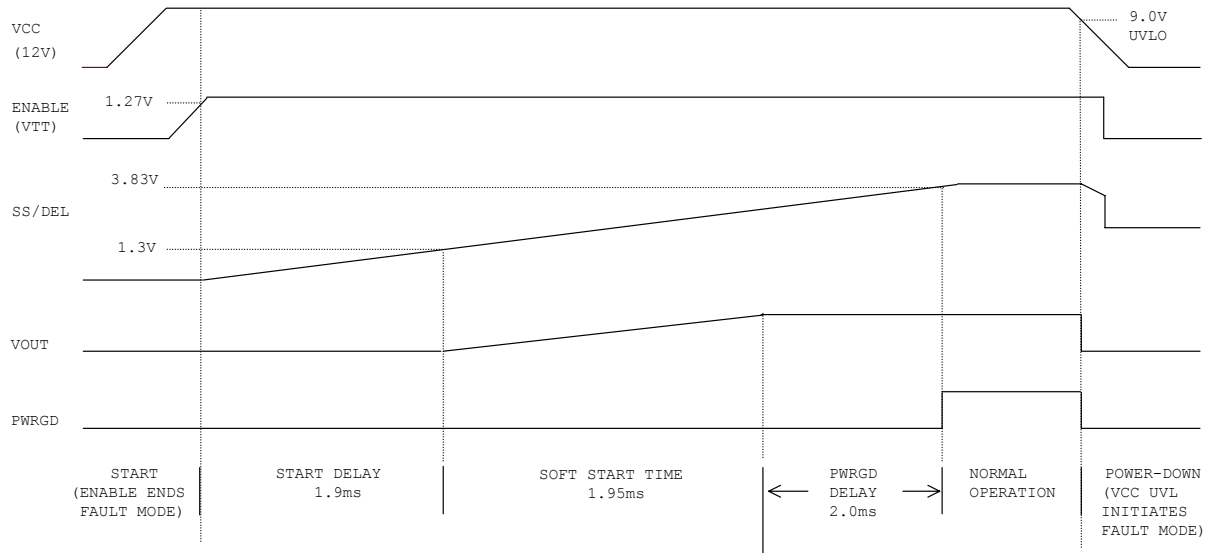

Figure 10 – Start-up Waveforms
The IR3082PbF has a programmable soft-start function to limit the surge current during the converter start-up. A capacitor connected between the SS/DEL and LGND pins controls soft start as well as over-current protection delay and hiccup mode timing. A charge current of 66 μ A and discharge current of 6 μ A control the up slope and down slope of the voltage at the SS/DEL pin respectively. Soft start-up waveforms are shown in Figure 10.
The SS/DEL pin voltage controls the slew rate of the converter output voltage, as shown in Figure 10. After the ENABLE pin voltage rises above 1.23V, there is a soft-start delay time t_{SSDEL} , after which the error amplifier output is released to allow the soft start. The soft start time t_{SS} represents the time during which the output voltage rises from zero to V_O . t_{SS} can be programmed by an external capacitor, which is determined by Equation (1).